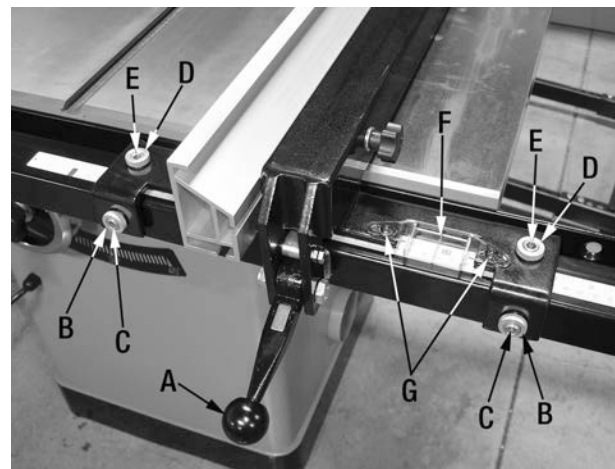
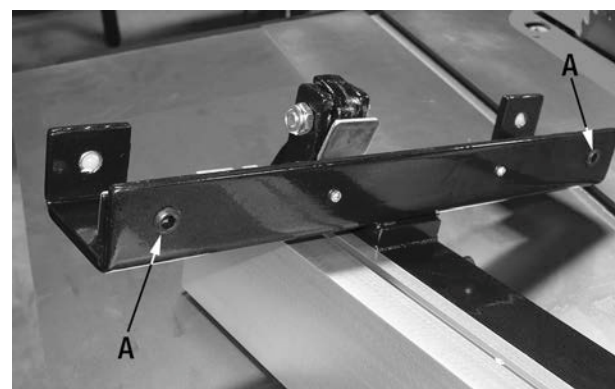

FIGURE 2
FIGURE 3
The rip fence must be perfectly aligned with the table T-slot. To verify this, place rip fence on table and align the edge of the rip fence with the table T-slot, lower the locking lever (A) Fig.2 to lock it into place. Check to see if the edge of the rip fence and the table T-slot are parallel. If they are not parallel, unlock the rip fence and turn it upside down as shown in Fig.3. Adjust the set screws (A) Fig.3 in or out, verify your adjustment, repeat if necessary.
The lock lever pressure can be adjusted by loosening the front lock nuts (B) Fig.2 and adjusting the set screws (C) the same amount. Make sure the fence remains parallel with the table T-slot. If you turn a set screw one full turn, it is necessary to adjust the other set screw one full turn. Retighten lock nuts.
The pointer window (F) Fig.2 position can be adjusted if needed, loosen round head allen screws (G), reposition the pointer window and retighten round head allen screws.